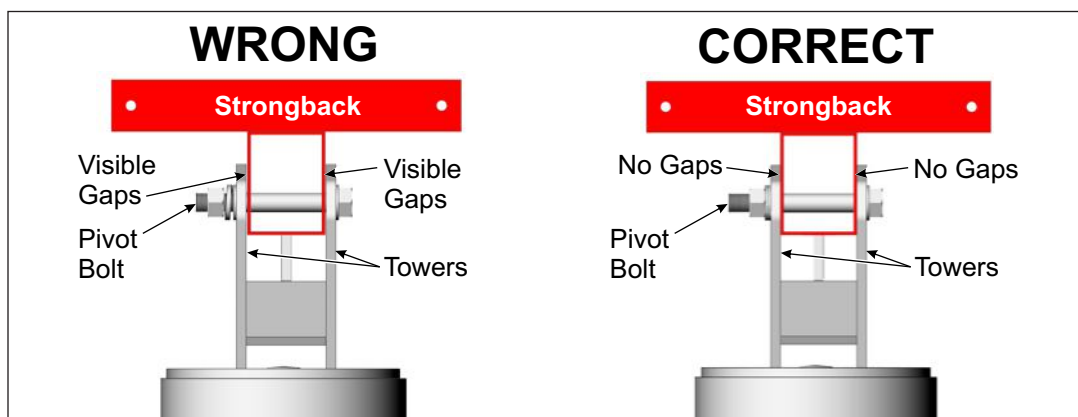

Figure 7-3: Tighten and Torque the Pivot Bolt
- C. Re-tighten the Pivot Bolt. After changing the tilt angle and tightening the Support Bar hardware, the Pivot Bolt must be re-tightened. The Pivot Bolt cannot be left loose - the Mounting Sleeve Vertical Towers must be firmly clamped to the sides of the Strongback, eliminating any gaps between the Vertical Towers and the Strongback. **Torque to 330-350 ft.-lbs.** (See Figure 7-3)